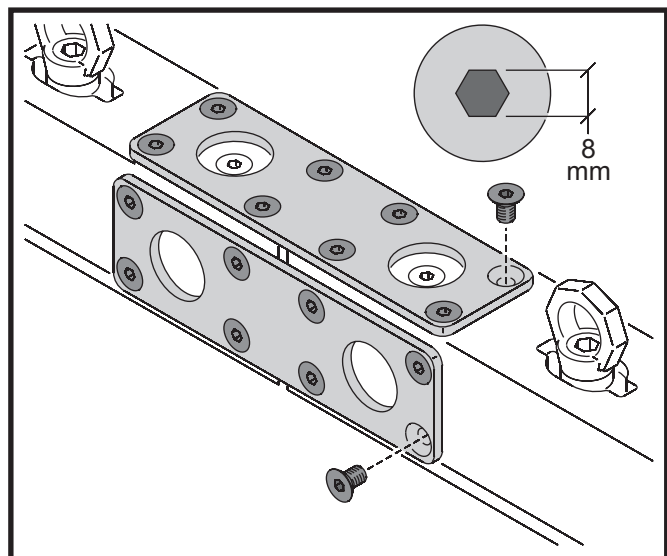

Figure 7: Joining Plates for Header Connection Brackets
1. See Figure 7. Fasten Double or Triple Header to each other using two Joining Plates, one on the top and one on the front surfaces of the Headers, securing each plate with eight of the 8 mm Allen M12 bolts supplied with each Header (i.e. sixteen bolts in total). Do not use any other bolts than the ones supplied by Martin for this purpose.